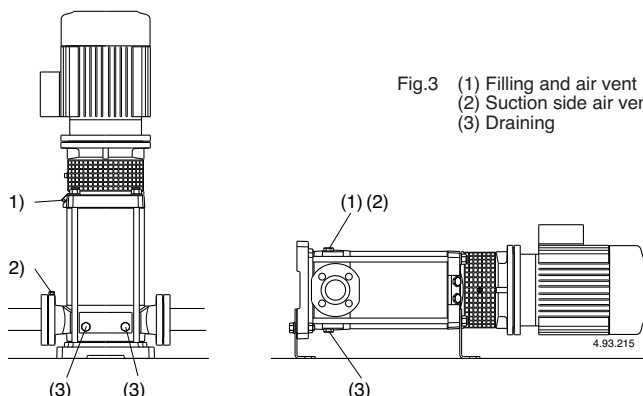

Fig.3 (1) Filling and air vent
When the pump is located above the water level (suction lift operation, **fig. 2 A**) or with a positive suction head which is too low (less than 1 m) to open the non-return valve, fill the suction pipe and the pump through the priming hole (1) (**fig. 3**).
When the liquid level on the suction side is above the pump (inflow under positive suction head, **fig. 2 B**), fill the pump by slowly and completely opening the inflow gate valve while keeping the delivery gate valve and air vent holes (1), (2) (**fig.3**) open to release the air.
Close the air vent holes (1), (2) (**fig.3**).
If a priming loss occurs (interruption of delivery flow, despite opened gate valves) or if a pressure oscillation is indicated on the pressure gauge, repeat the venting operation on the suction side (2), make sure all the suction pipe couplings are perfectly sealed and tighten the air vent plug (2) and the draining plugs (3) on the suction side (fig.3).
Or, after draining, perform the washing operation, inserting clean water (at least 40 litres) into the filling hole (1) on the delivery side and allowing it to come out of the draining hole (3) on the suction side (fig.3).
When the pump remains inactive it must be emptied completely if there is a risk of freezing. Remove both plugs (14.12), (position 3, fig.3).
Before dismantling, close the gate valves in the suction and delivery pipes and empty the pump casing (fig. 3).